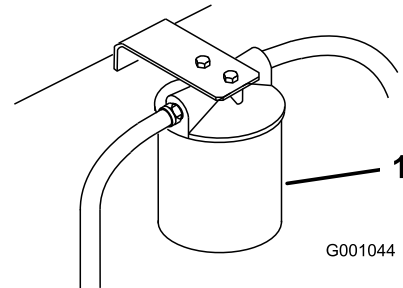

Figure 87
3. Place drain pan under filter, remove the old filter and wipe the filter adapter gasket surface clean (Figure 87).